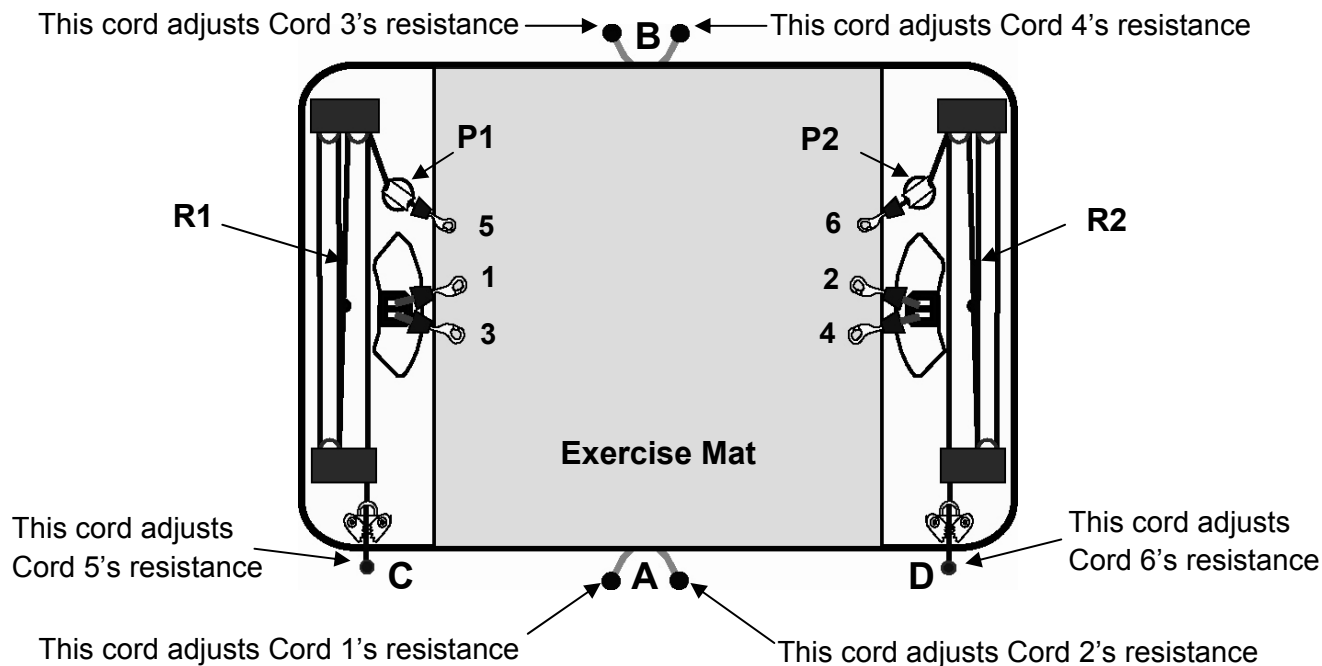

Figure 1 - V6 Unit
Referencing Figure 1, the six-cord V6 is an upgrade of the V4, in that it has two more topside resistance bands (R1 and R2) located on either end of the platform. Two fixed pulley assemblies (P1 and P2) mounted to the platform surface allow a 5th and 6th band to be attached to the hands or ankles for numerous sports specific hand, leg and foot movements, such as kicking, hurdling, etc. Most trainers attach 5th & 6th cords to the hands so that athletes can experience a loading on the arms and shoulders while at the same time doing lower body reactive power training. This total body involvement further raises the vertical jump and first step quickness results achieved with the V4. (All exercises that could be done on the V4 can also be done on the V6. When felt appropriate, coaches can opt to use or not to use the two additional cords.)
Referencing Figure 1, cords 1, 2, 3, 4, 5, and 6 provide six rotational resistance vectors whose points of origin are fixed. Each resistance vector can be independently attached to the user. The resistance of cords 1 and 2 are adjusted by extracting or retracting the cords at location (A). The resistance of cords 3 and 4 are adjusted by extracting or retracting the cords at location (B) while the resistance of cords 5 and 6 are adjusted by extracting or retracting the cords at locations (C) and (D) respectively.